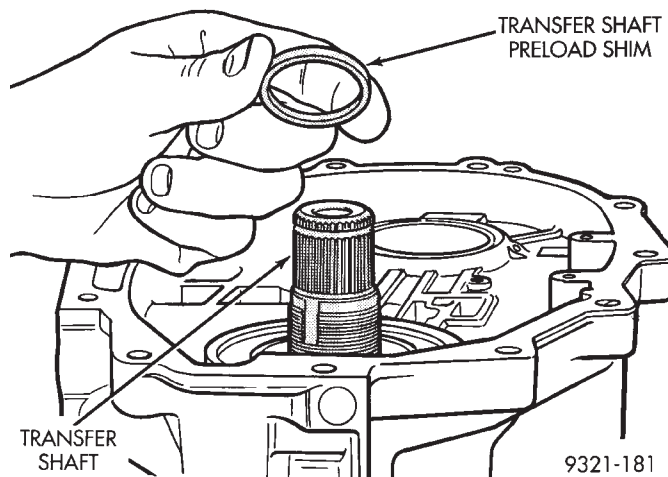

Fig. 280 Transfer Preload Shim Installation
(41) Install Transfer shaft preload shim (Fig. 280). Use the original shim that was taken out of transaxle if possible. If original shim is not available, use the thickest shim as a starting point. Refer to Transfer Shaft Rear Shim Chart for available sizes.